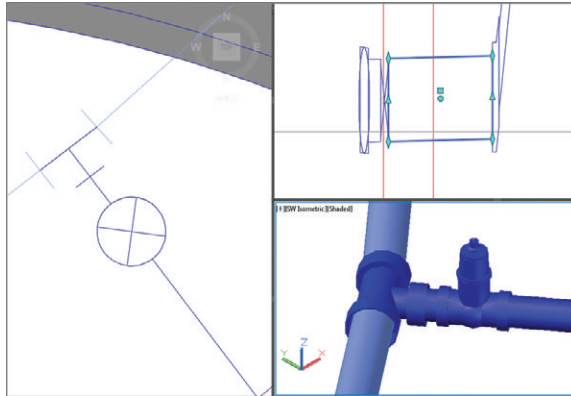

FIGURE 15.12 The connection of the proposed waterline to the existing waterline, shown in plan, profile, and 3D perspective
15. Click the pipe on the right side of the gap to display its grips. Click the upright triangle grip, and drag it toward the new valve. Click when the glyph appears, indicating that a connection is going to be made. View the tee and valve assembly in the lower-right viewport (see Figure 15.12).